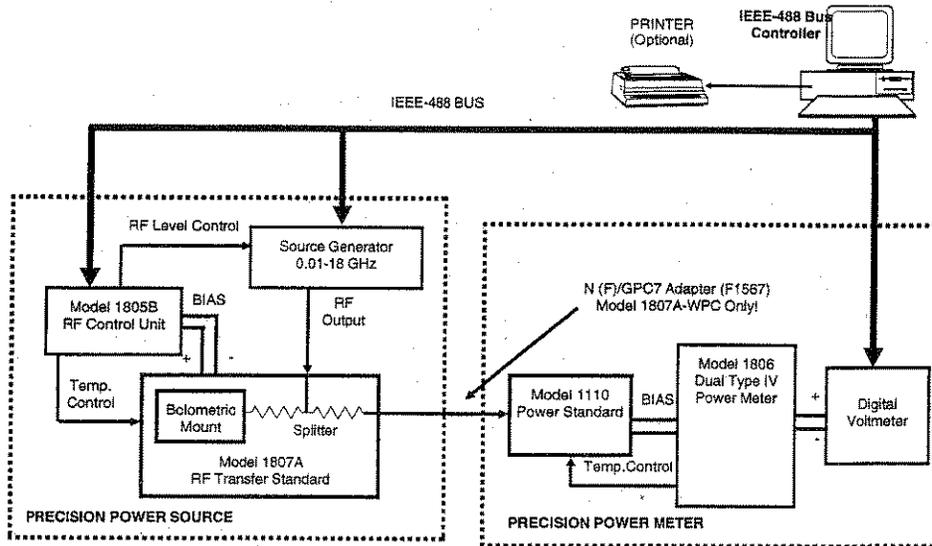

Figure 5-1 0.01 to 18 GHz Calibration Setup
- a. Connect the equipment as in Figure 5-1.